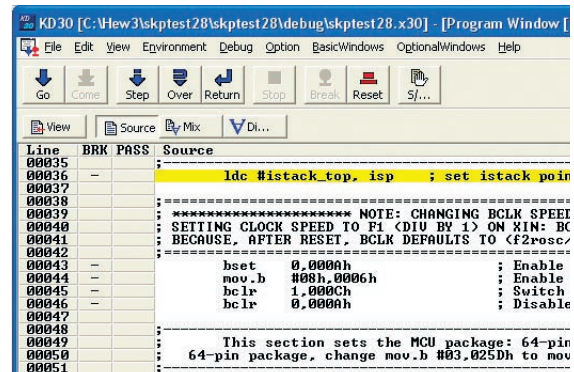

Figure 6. KD30 Program Window after download of skptest28
- d) After initialization, the KD30 Program Window will appear and our program, “skptest28.X30”, is automatically downloaded. The KD30 Program Window should look like Figure 6.